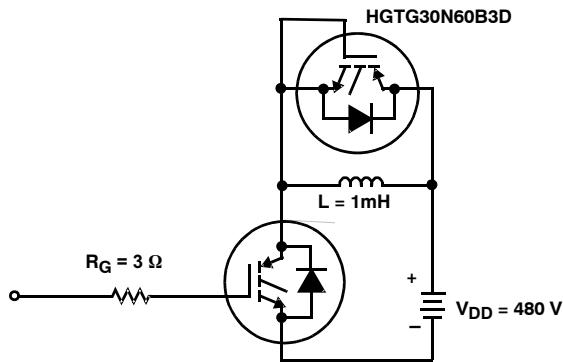

Figure 17. Inductive Switching Test Circuits
- Values for two Turn-On loss conditions are shown for the convenience of the circuit designer.  $E_{ON1}$  is the turn-on loss of the IGBT only.  $E_{ON2}$  is the turn-on loss when a typical diode is used in the test circuit and the diode is at the same  $T_J$  as the IGBT. The diode type is specified in Figure 17.